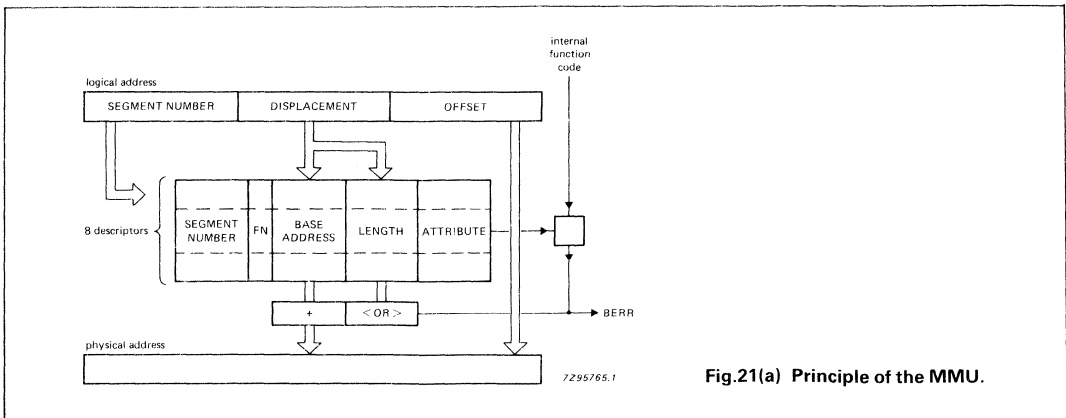

Fig.21(a) Principle of the MMU.
- 4) If no violations have been detected, a physical address will be generated. This address is constructed by adding the segment base address, the displacement 'D' and the offset 'O' bits, see figure 21(a).